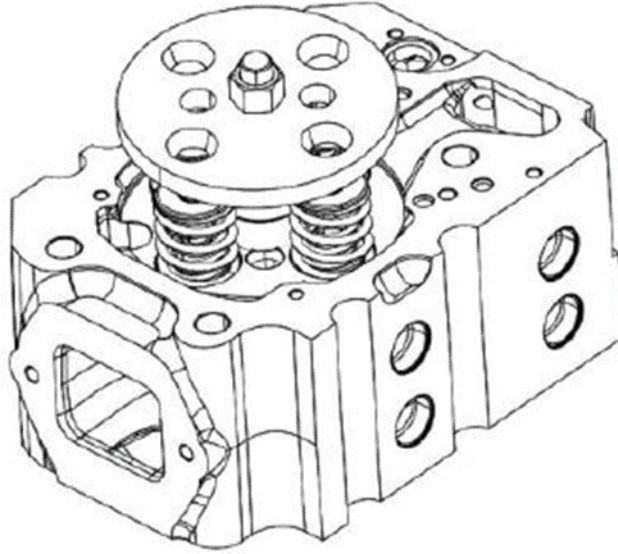

Figure 63. Valve Spring Compressor Assembly
8. Using the valve spring compressor tool, compress the valve springs (Figure 63).